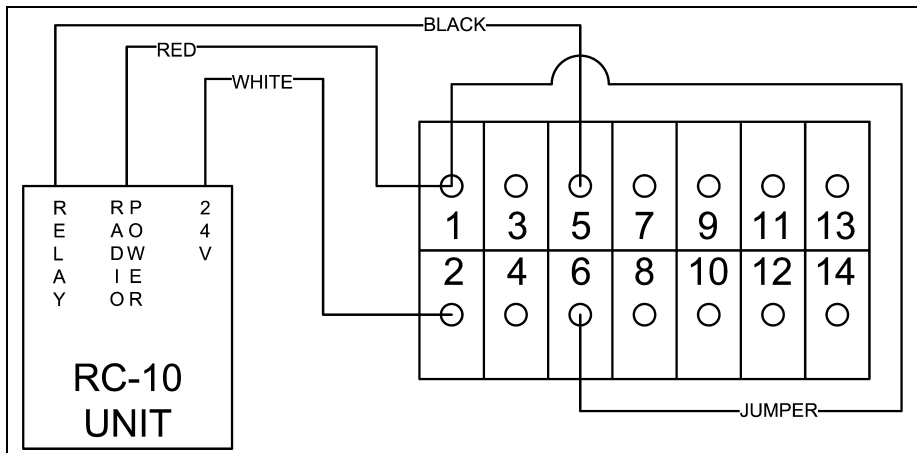

Figure 2. Connections
1. Install a jumper wire between terminals #1 and terminal #6 (see Figure 2).